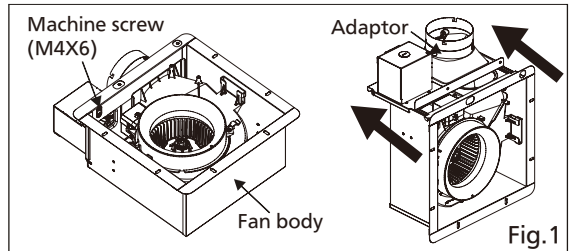

Fig.1
1. Remove the junction box and duct adaptor from the fan housing before installing the fan. Remove the machine screw (M4X6) and disconnect the electrical molex cable by pinching the tabs to insure the junction box and adaptor clear the fan housing when sliding the adaptor off the housing. (Fig.1)